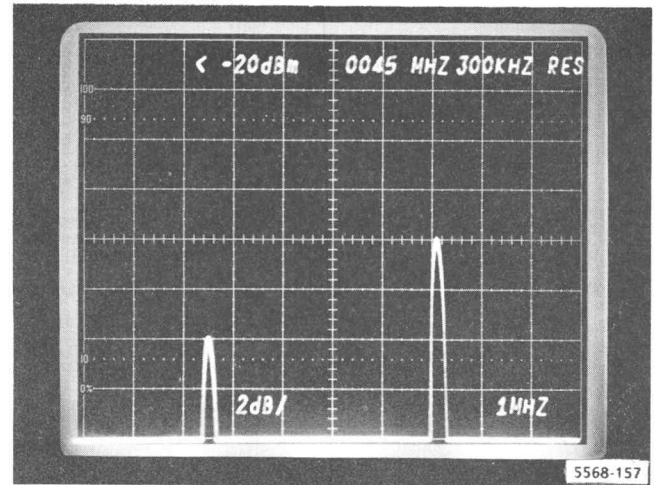
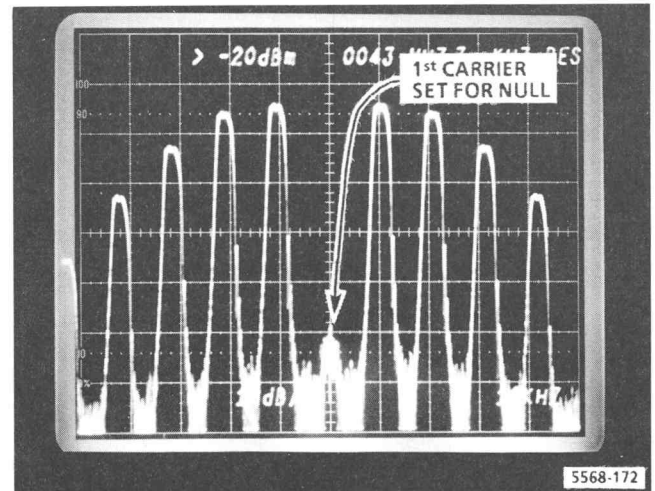

Fig. 4-61. Aural carrier 4 dB below unmodulated visual carrier.
Fig. 4-62. 1st carrier null (25 kHz deviation).
- b. Set the Test Modulator Aural Carrier Level control so the aural carrier level is 4 dB below the unmodulated visual carrier. See Fig. 4-61. Then reset the spectrum analyzer vertical mode to 10 dB/div, freq span/div to 10 kHz, and resolution to 3 kHz. Ensure the aural carrier is centered on the display. Set the oscillator Var Attenuator for the first carrier null at the center frequency. This sets the Test Modulator IF Out for 25 kHz deviation. See Fig. 4-62.